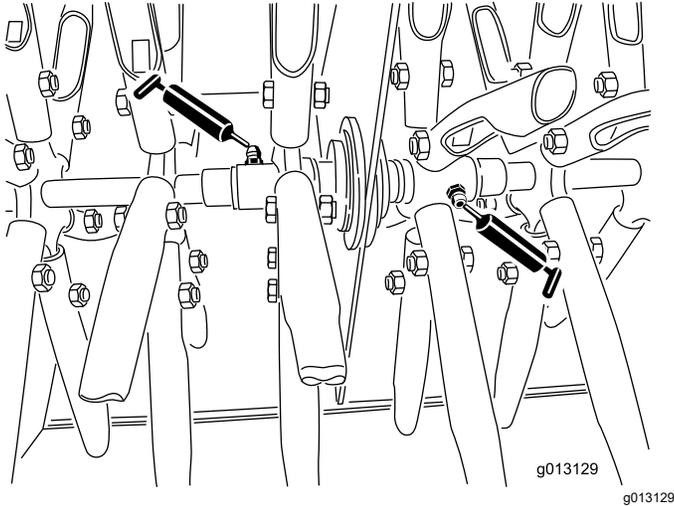

Figure 17
3. Manually rotate the 2 center tine assemblies until you can see the grease fittings (Figure 17).